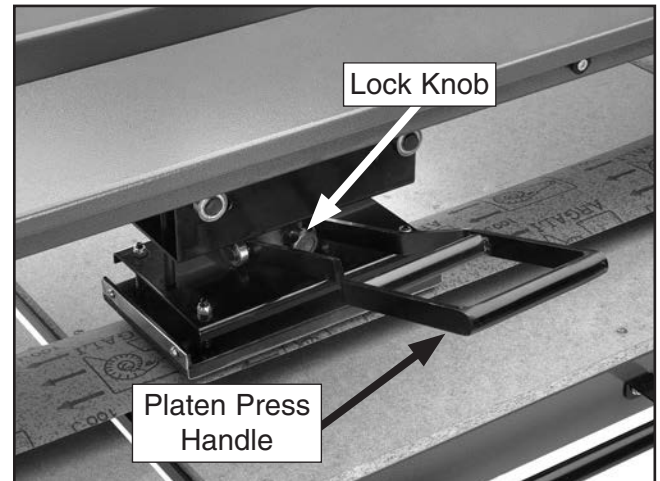

Figure 34. Platen press.
1. Loosen the lock knob shown in **Figure 34**.